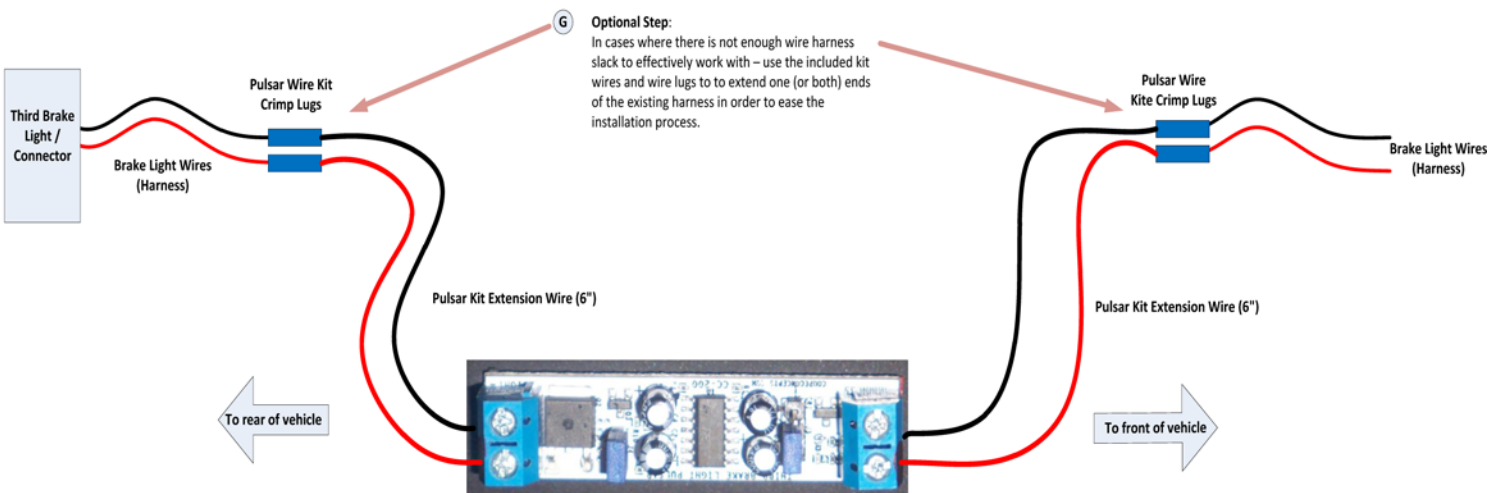

Figure 6 – Adding extension wires to the cable harness
In the event the vehicle's wire harness does not have enough slack or play in it to facilitate steps C thru F, then utilizing the included wire extensions may be required as shown in **Figure 6.**
3. If wire extensions were used (**Figure 6 example**), double check to ensure that the striped wires are properly crimped and secure within the crimp lugs.